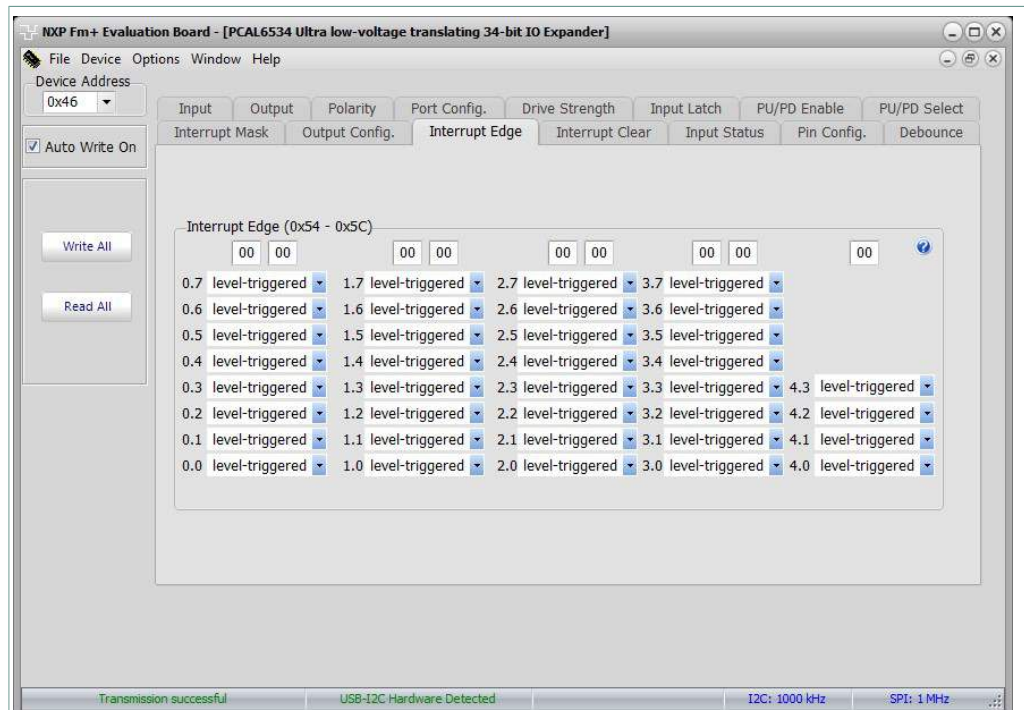

Figure 20. Device configuration screen for registers 54-5C hex
12. Interrupt edge registers read or write are shown in Figure 20.